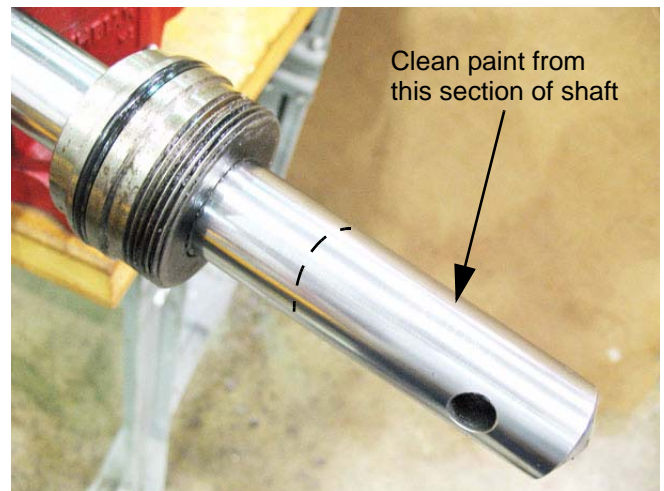

Figure 5.6
- 2.13. Slide the end cap off of the shaft. See Figure 5.6.